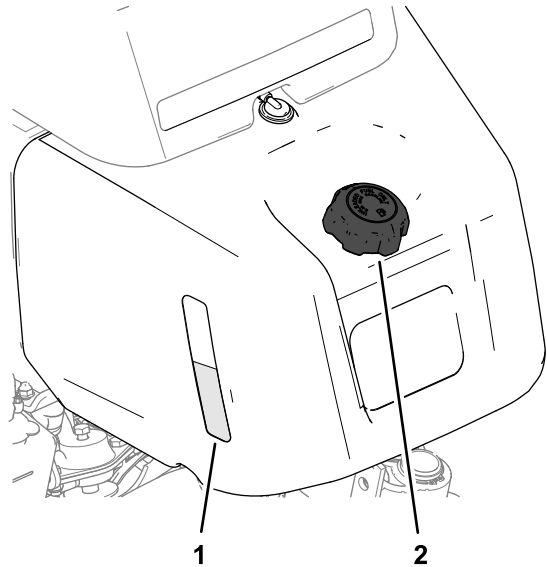
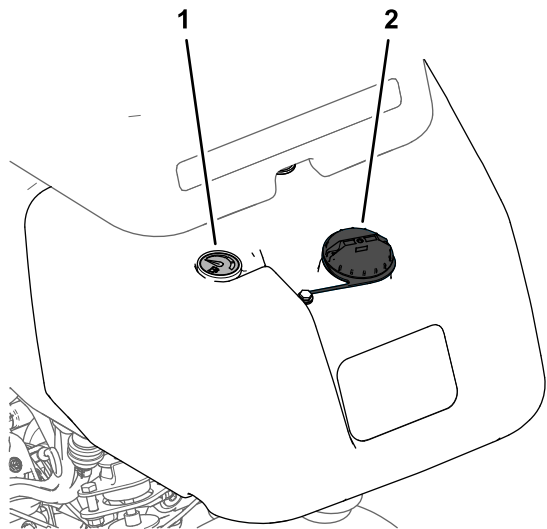

Figure 22
Figure 23
1. Clean around the fuel-tank cap and remove it (Figure 22 or Figure 23).